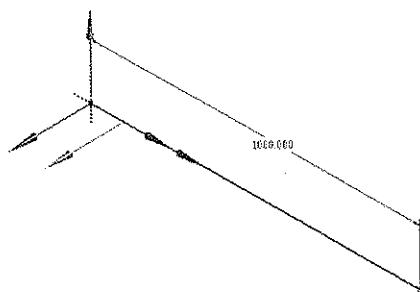

Figure 4-7 The generated line body feature in Isometric view
4. Right-click in the **Graphics** window and choose the **Isometric View** option from the shortcut menu displayed; the view is changed to Isometric, as shown in Figure 4-7.